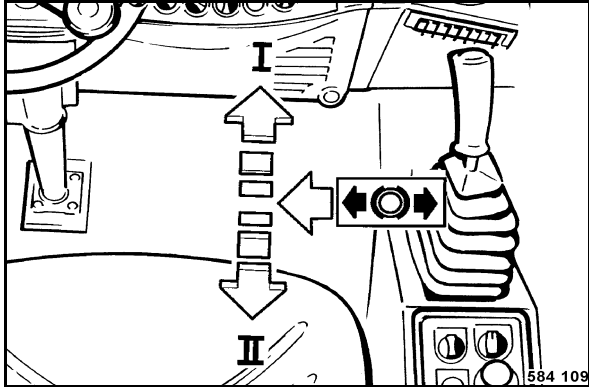

Fig. 56
- Shift the travel lever (Fig. 56) out of braking position to the left to disengage.